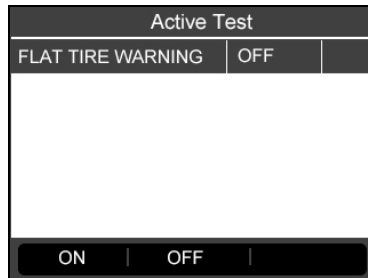

Figure 4.38
- 4) Press the corresponding **FUNCTION** button "**ON**" or "**OFF**" to check whether the TPMS warning lamp on the vehicle is turning on or off. (Figure 4.38)